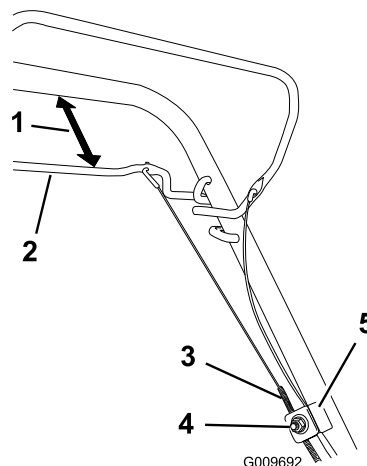

Figure 33
- Loosen the cable-support nut (Figure 33).
- Hold the self-propel-drive bar 25 to 38 mm (1 to 1-1/2 inches) from the handle (Figure 33).
- Pull down the cable jacket (toward the machine) until there is no slack in the cable (Figure 33).